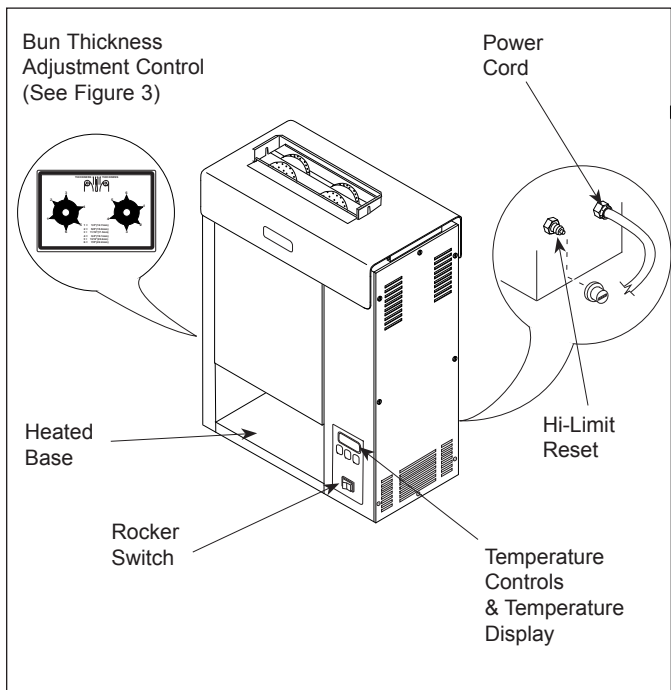

Figure 2. VCT-20 Toaster
2. Turn the Rocker Switch (power On/Off) to ON. (Figure 2). Allow the toaster to warm-up for 30 minutes before proceeding.
NOTE: The temperature display (Figure 2) will flash "LO" until the toaster reaches its preset operating temperature. When the toaster approaches the preset temperature of 570°F (298°C), "570°F" will appear in the temperature display and the unit is ready to toast buns. If "570°F" does not appear in the window after warm-up period of approximately 30 minutes, contact your Authorized Service Agency.
3. Drop Crowns and Heels into the slot (Figure 2). **Cut sides of heel and crown must face each other.**
4. Toasted buns will drop into the bun landing area (Figure 2) in approximately 15 seconds.
A Hi-Limit Control turns off electrical power to the heater and control circuits if the unit overheats. To reset the control, allow sufficient time (10-15 minutes) for the unit to cool, then locate the Reset Button at the rear of the unit. Remove the black protective cap, press the Reset Button, and reinstall the protective cap (Figure 2).